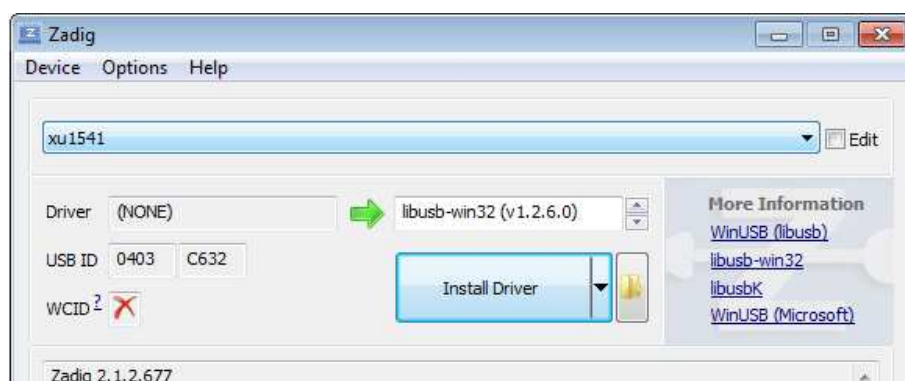

Figure 4: zadig settings for installing an xu1541 device
- **XU1541 only:** Make sure that zadig tells you it found the "xu1541", and that it wants to install the WinUSB driver. The USB id is 0403 (vendor) and C632 (product). Your screen should look like figure 4 ().